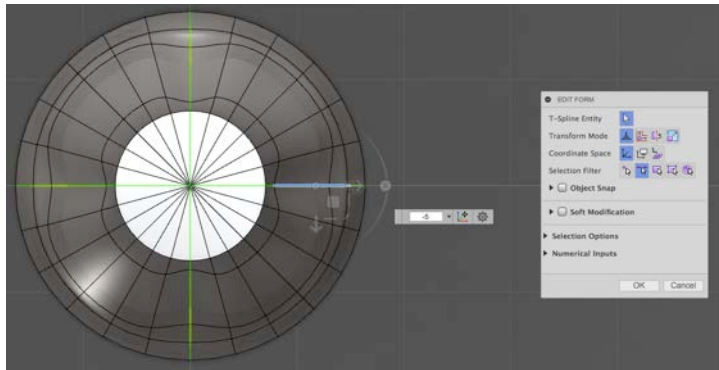

Fig. B08
- c. Move edges left (into the bottle) about 5mm (Fig. B08).